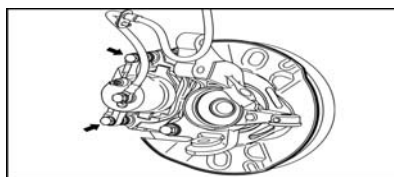

Fig. 2-59
② Install silencer pad on each brake pad.
③ The wear indicator is upwards. Install the inside brake pad, and then the outside.
① Install the front disc brake slave cylinder by 2 bolts. See Fig. 2-59. Tightening torque: 34N·m.